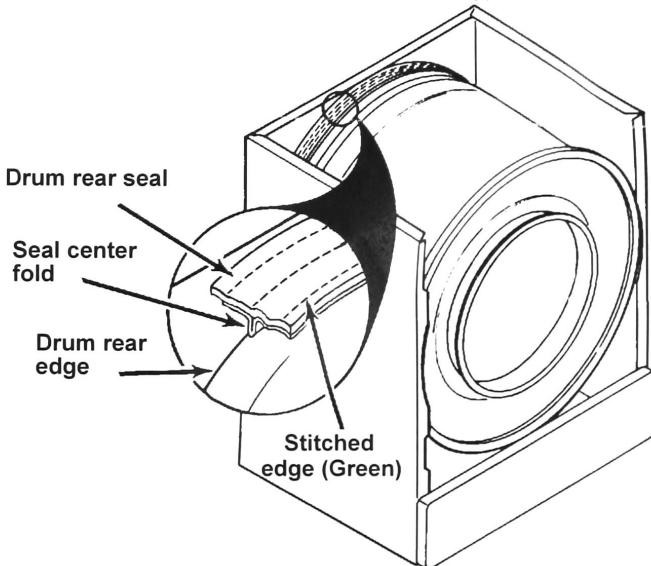

Figure 1
4. Install new seal with stitched edge (Green) toward the front of drum. See *Figure 1*.
5. Raise the seal to position it with the seal center fold against the drum rear edge. See *Figure 1*.